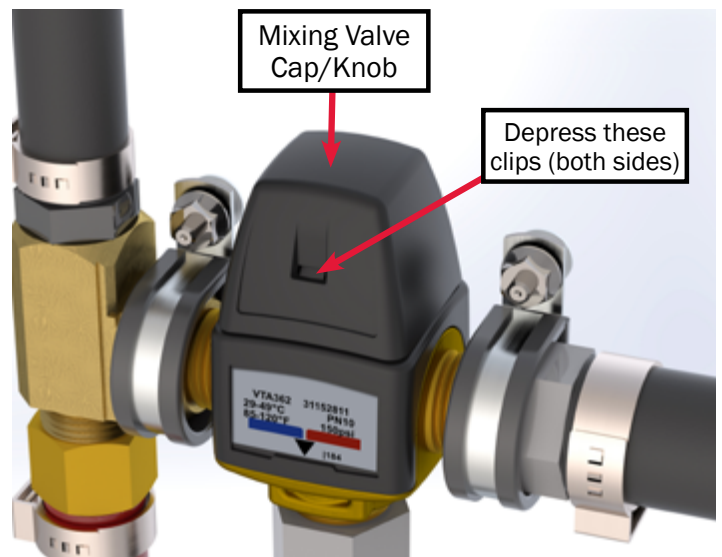

Figure 13
- A screwdriver can be used to depress the clips on the cap during removal. (Figure 13)